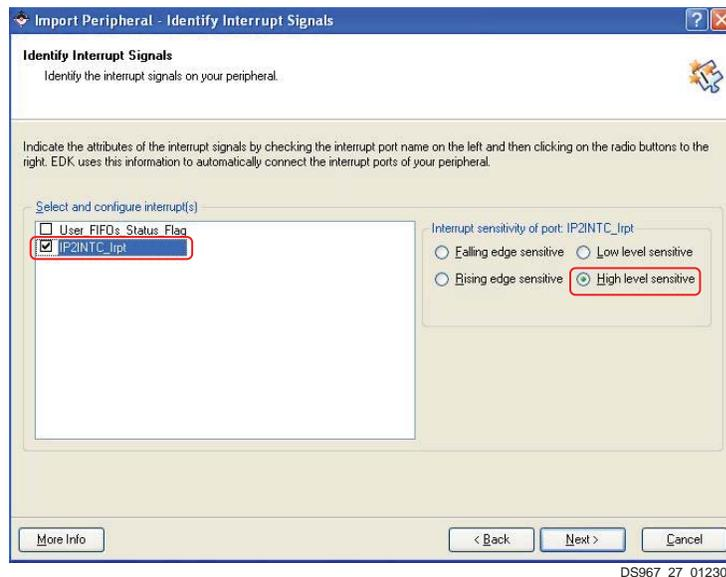

Figure 27: Defining the IP Interrupt Signal and its Sensitivity
- In the **Identify Interrupt Signals** window, make the selections shown in Figure 27. Select IP2INTC_Irpt in the Select and configure interrupt(s) window. Under Interrupt sensitivity of port: IP2INTC_Irpt, select High level sensitive.